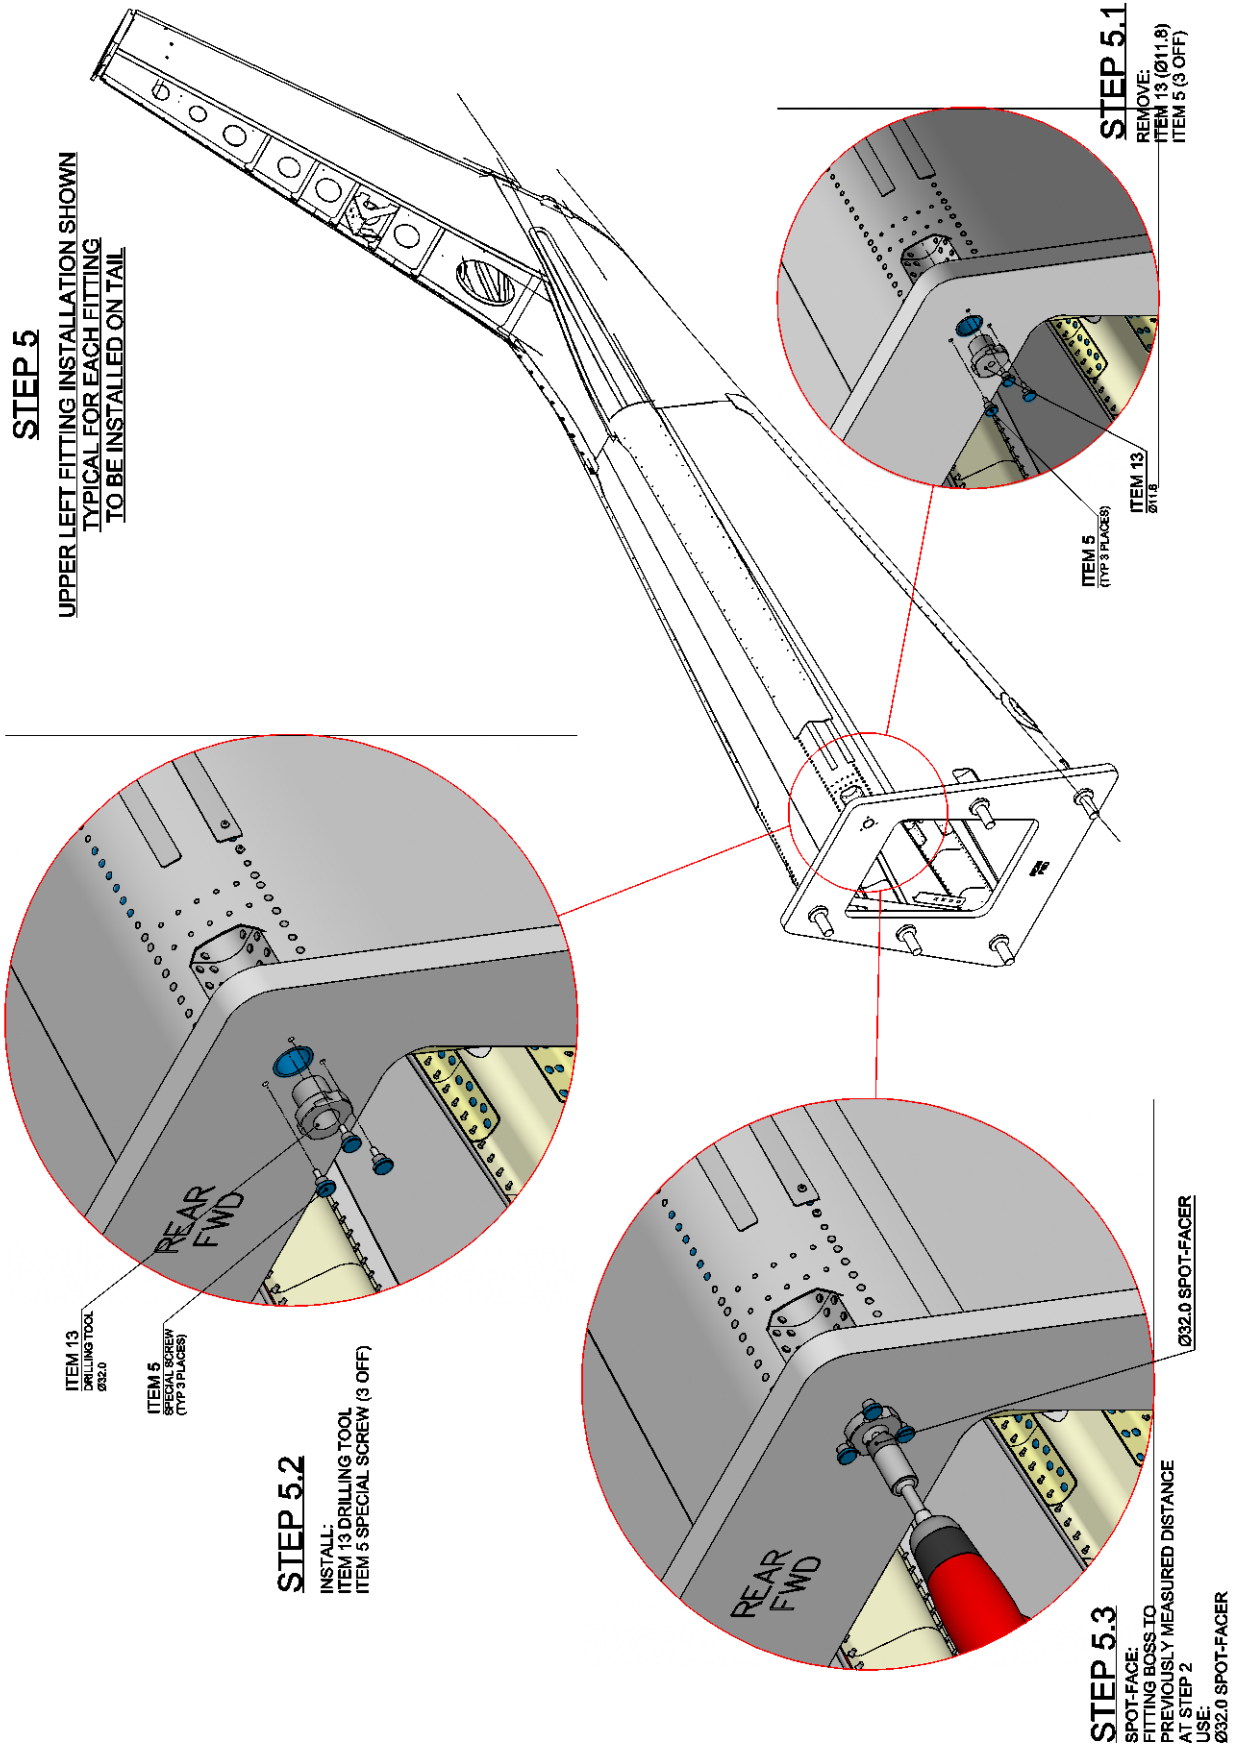

Figure A6
8. With reference to Figure A6, remove the drilling tool  $\varnothing 11.8$  (ITEM 13) and the n°3 special screws (ITEM 5).
9. With reference to Figure A6, install the drilling tool  $\varnothing 32.0$  (ITEM 13) by means of n°3 special screws (ITEM 5) and spot-face the fitting boss to the previously measure at step 2 by means of  $\varnothing 32.0$  spot-facer.